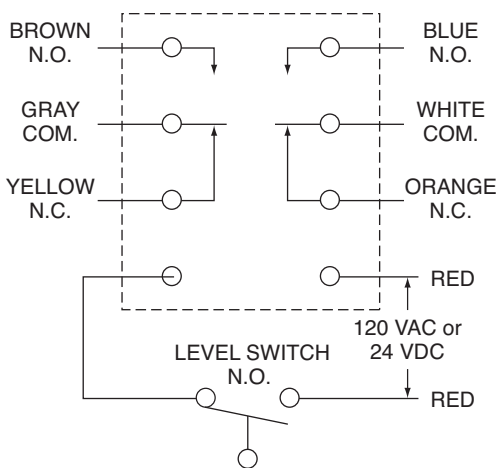

Figure 6
3. DPDT relay: Connect wiring to proper switch leads and run power supply according to the wiring diagram. See figure 6. This relay must be powered to function. 5A @ 24 VDC relay requires 24 VDC power supply while the 5A @ 120 VAC relay requires 120 VAC power supply.